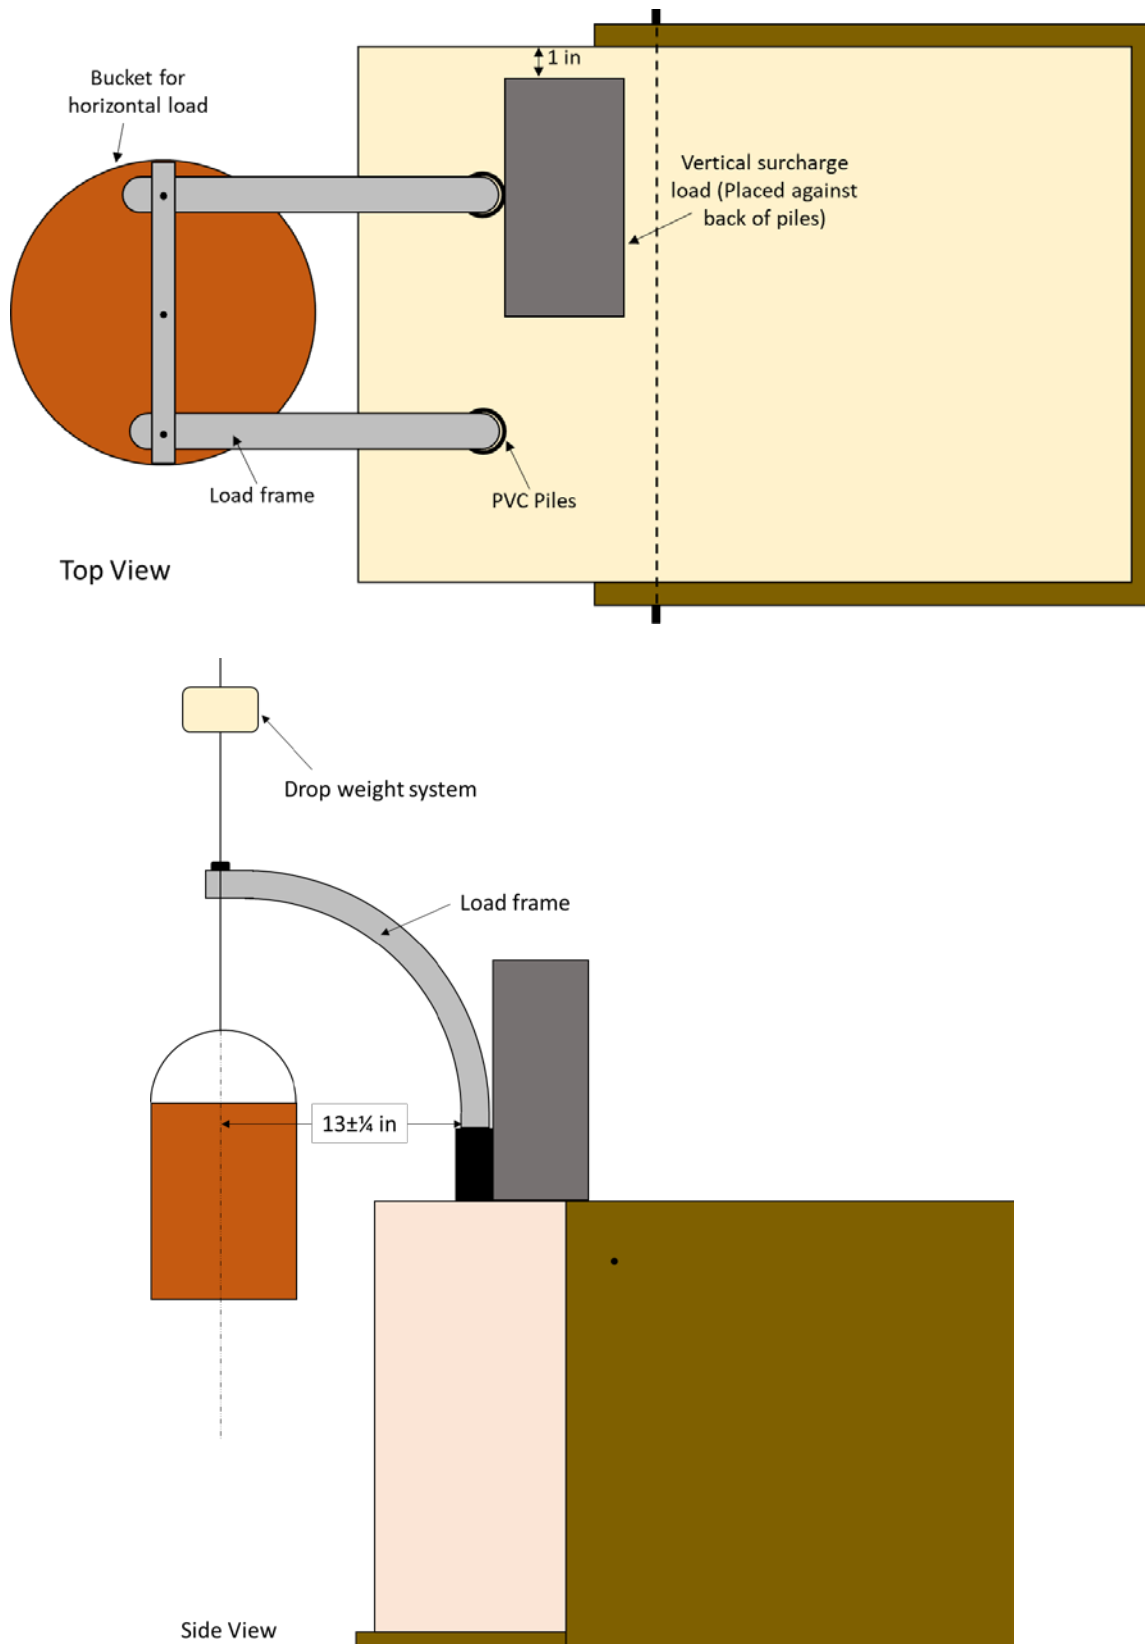
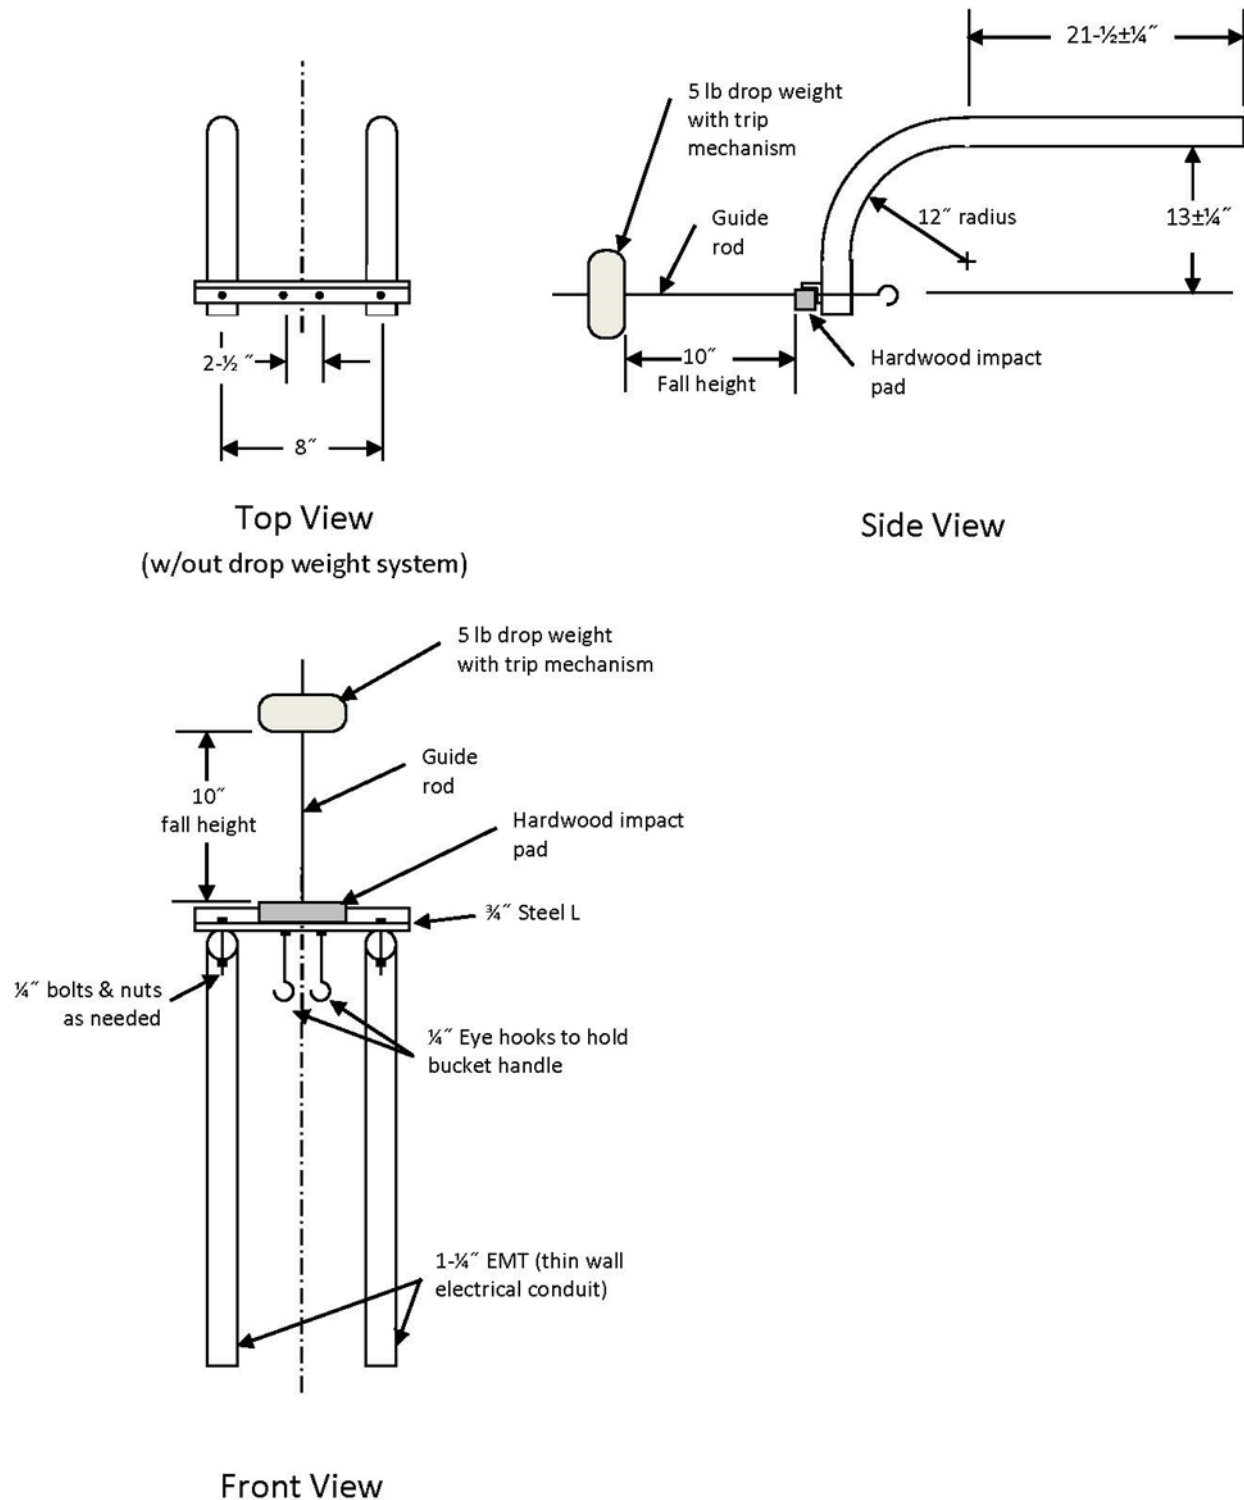

Figure 3: Load Placement (not to scale)
Figure 4: Dimensions of Horizontal Load Frame (not to scale)
- d) **Loading Stage** – Details of the load placement are shown in Figure 3. This stage occurs in three steps: 1) removal of front and side panels, 2) placement of 50 lb vertical surcharge, and 3) placement of the 20 lb static horizontal surcharge load in an empty 5 gallon bucket on the loading frame followed by a single application of the dynamic horizontal load. During each step, the wall will be checked for the following three criteria: 1) excessive deformation (any portion of the wall extending outside imaginary planes extending vertically from the base of sandbox), 2) excessive soil leakage (more than 30 cm³ of sand passing out of the sandbox), and 3) catastrophic failure. The team will be penalized for excessive soil loss and excessive deformation, but will be disqualified for a catastrophic failure.
- i) When directed by the judge, the team shall remove the front and side panels of the sandbox. After the panels are removed, the judge will wait one (1) minute and then check the three criteria.
- ii) If the wall does not fail catastrophically, the team will then place 50 lbs of sand in the vertical surcharge loading platform (see Appendix B for platform details). The team will have one (1) minute to place the load. After the load is placed, the judge will wait one (1) minute and then check the three criteria.
- iii) If the wall does not fail catastrophically, the team will place the 5 lb drop weight on top of the load frame, hang an empty 5 gallon bucket on the loading frame, place 20 lbs of sand in the bucket (see Figure 3), and then trip the drop weight for a single application of the 5 lb weight falling 10 in and impacting the top of the loading arm (see Figure 4). The team will have one (1) minute to complete this loading sequence. After the sequence is complete, the judge will wait one (1) minute and then check the three criteria. The horizontal load frame with vertical drop weight will be provided by the competition organizers. Teams should not bring their own load frames to the competition.